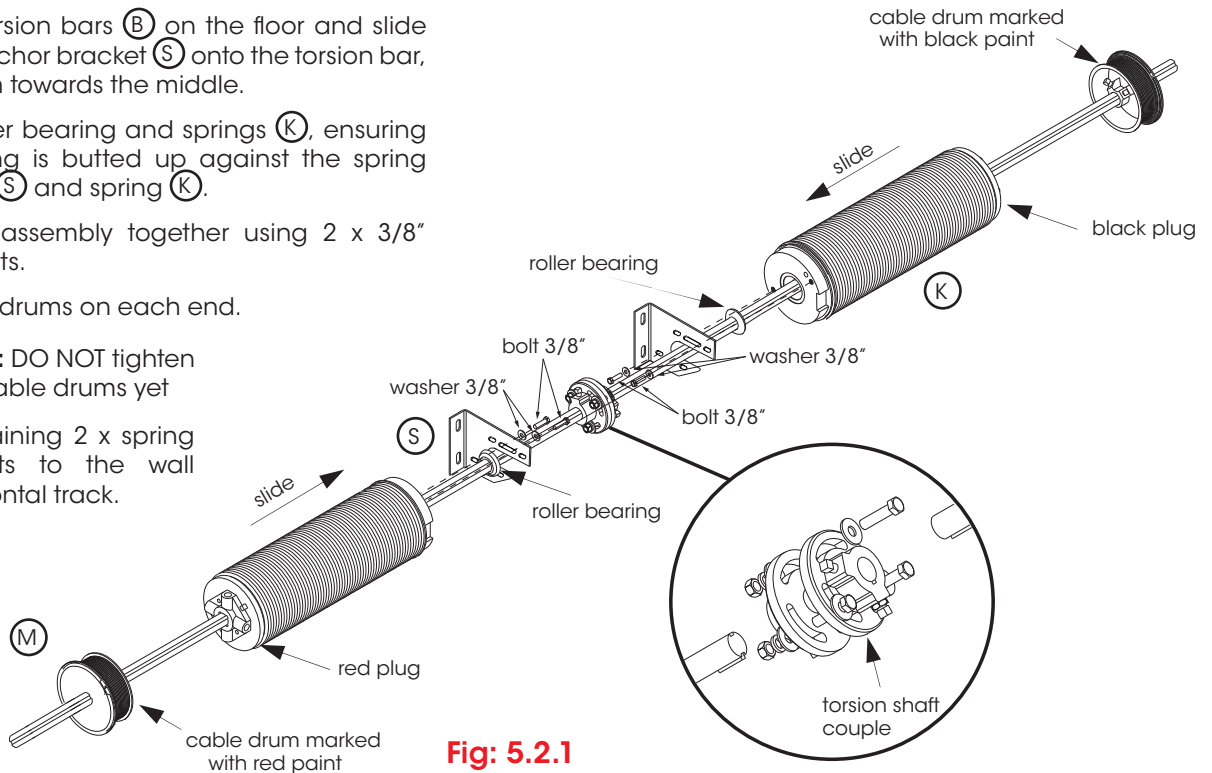

Fig. 5.2.1
The springs and drums for the counterbalance system are now colour coded to easily identify which side of the centre bracket the spring is placed. Fig. 5.2.1.
- Position the torsion shaft couple in the middle as shown in Fig 5.2.1, the axes should be flush with each couple allowing free rotation to occur.